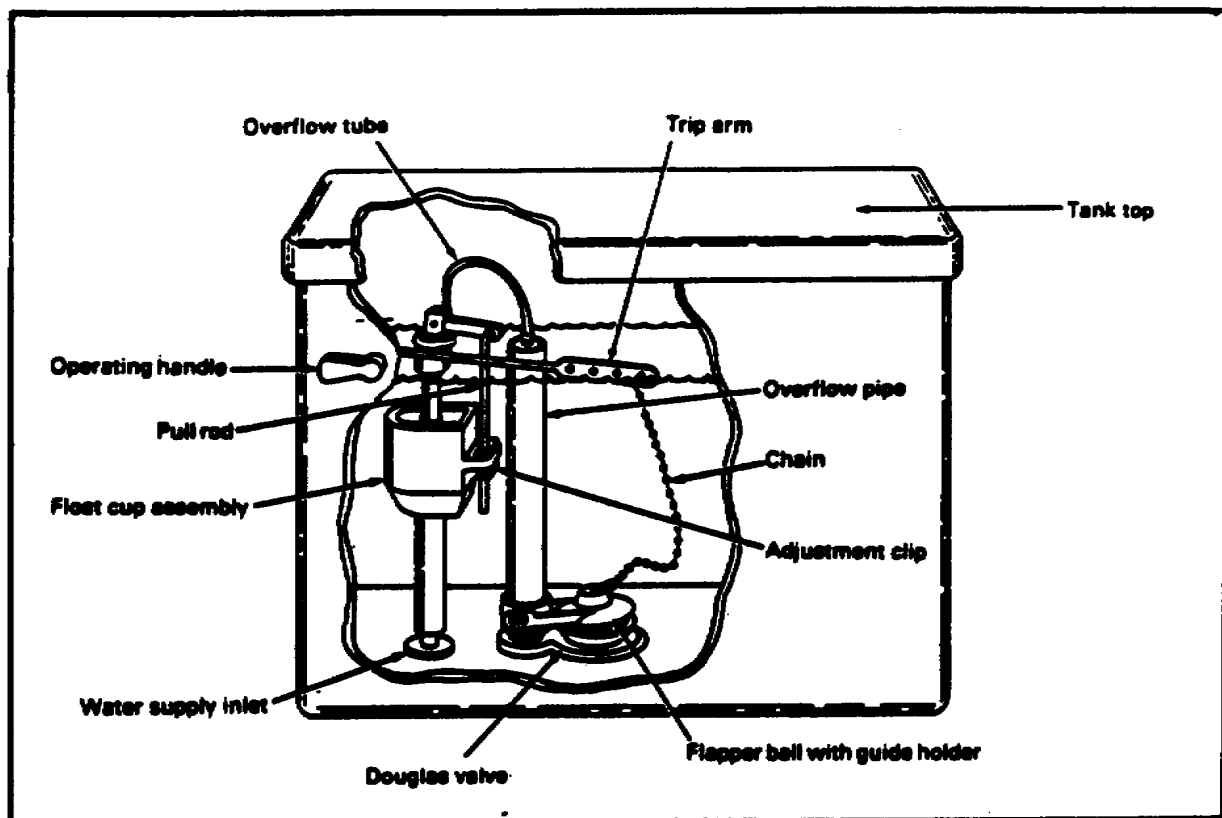

FIGURE 33. ADJUSTING PLASTIC FLOAT CUP MECHANISM
**Adjustments for a plastic float cup flushing mechanism.** Use the following steps to adjust a plastic float cup flushing mechanism (see Figure 33):